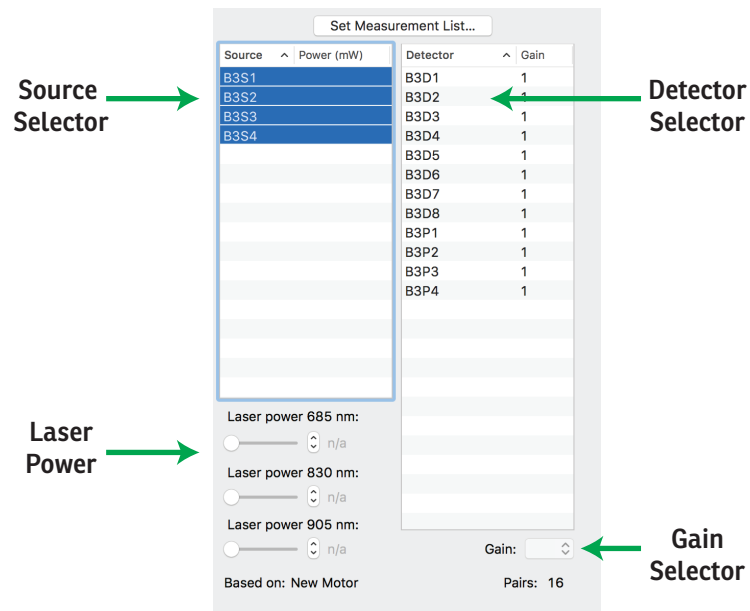

Fig. 14-7
- Set the laser power (all sources, both wavelengths) to the initial desired value by selecting the all sources in the sources list and sliding the power sliders all the way to the right (Fig. 14-7) . It is often